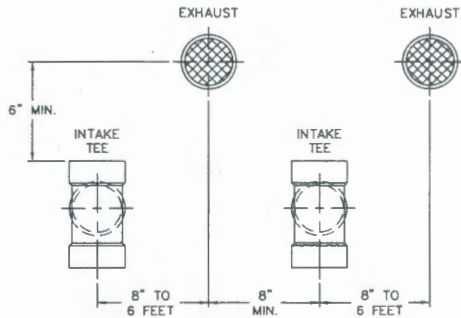

Figure 3.1: Vent Pipe Spacing for Multiple PUREFIRE Boilers
- e. For multiple boiler installations, the minimum horizontal distance between the inlet of one boiler to the exhaust of an adjacent boiler is 8" center-to-center. In addition, the minimum vertical distance between the exhaust and air inlet is 6". See Figure 3.1 for an illustration.